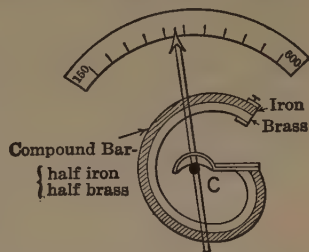

FIG. 51.—Dial thermometer on oven door.
**Oven thermometers.** Two types of thermometers are used on oven doors to indicate the temperature within the oven. One of these is the mercury thermometer; the other makes use of the expansion of a metal, or more commonly, of two metals joined in one bar. In the dial thermometer of this type, Fig. 51, a curved bar is made by fastening at short intervals a strip of brass to a strip of iron. The greater expansion of the brass, which is on the inside, makes the bar straighten a little. As it does so, the cord *C*, which makes a loop around the drum attached to the pointer, causes the pointer to move along the scale and indicate the temperature.